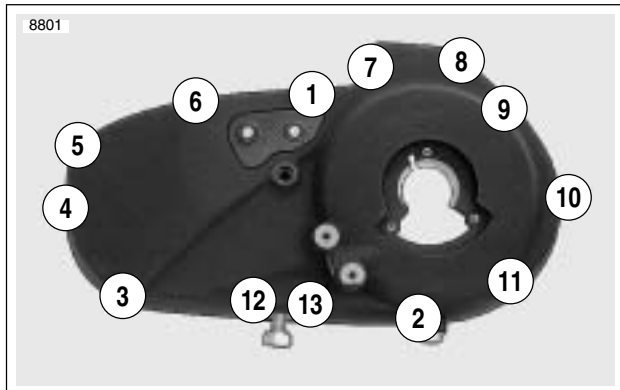

Figure 6-6. Primary Cover Tightening Sequence
4. See Figure 6-6. Tighten bolts to 80-110 in-lbs (9-12.4 Nm) in sequence shown.